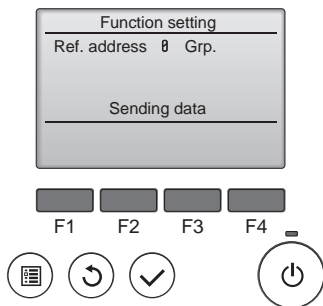
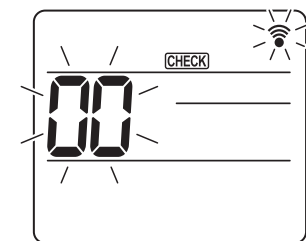
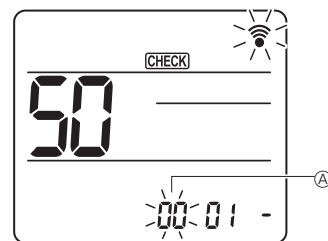
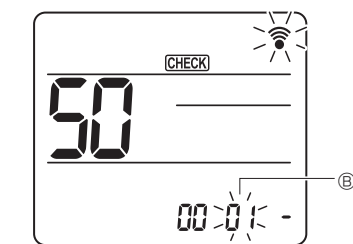

Fig. 6-15
Fig. 6-16
Fig. 6-17
Fig. 6-18
- ⑤ (Fig. 6-15)
- ① Going to the function select mode
- Press the [MENU] button between of 5 seconds. (Start this operation from the status of remote controller display turned off.) [CHECK] is lighted and "00" blinks. (Fig. 6-16)
- ② Setting the unit number
- Press the [DOWN] button to set unit number ^A. (Fig. 6-17)
- ③ Select a mode
- Press the [DOWN] button to set Mode number ^B. (Fig. 6-18)